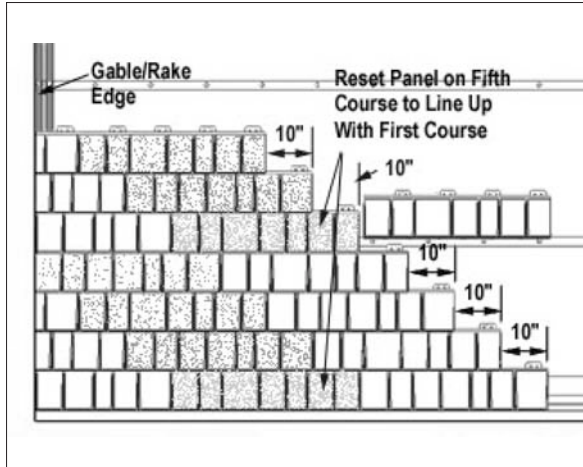
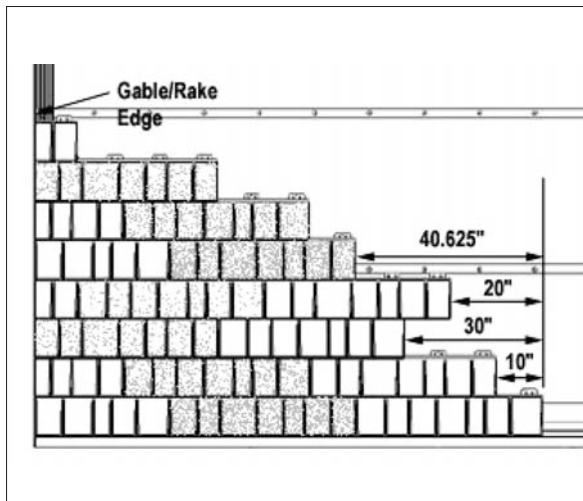

FIGURE 1-15 Standard 10" Offset
FIGURE 1-16 Staggered Offset
1. For panel application proceeding across the roof using the Standard 10" Offset or the Staggered Offset, the second course should be offset to the left by 10 inches. This will mean the second course; first panel at the gable/rake edge will be 10" shorter than the first course panel. Allow enough material to make the Tapered-Hem along gable/rake edge. *See Figure 1-15 and Figure 1-16.*